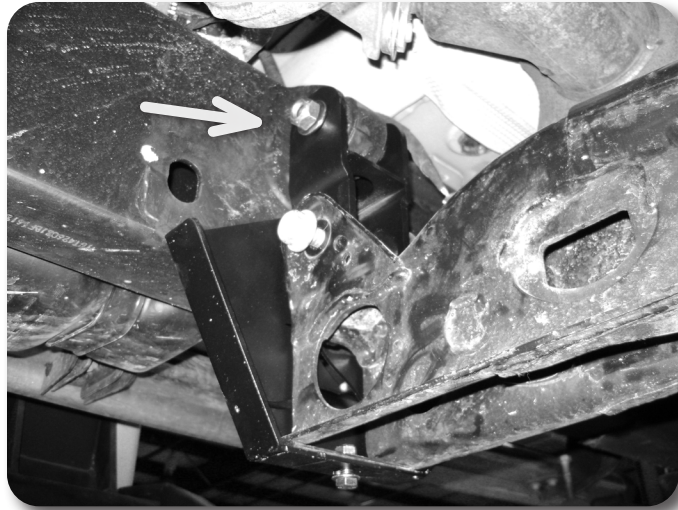

Figure 48
73. Install the modified torsion bar cross member to the original frame mounts. Be sure it is oriented properly (larger torsion bar holes to the front). Fasten to the factory frame mounts with 9/16" x 3-3/4" bolts, nuts and washers. **Figure 48** Torque bolts to 90 ft-lbs.